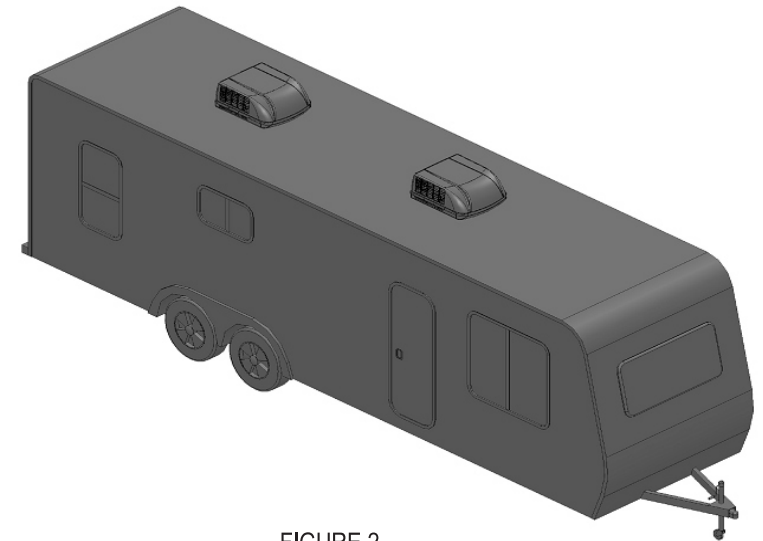

FIGURE 2
2. For two unit installation: Install one air conditioner 1/3 distance and the other air conditioner 2/3's from front of RV and centered from side to side. See FIG. 2.